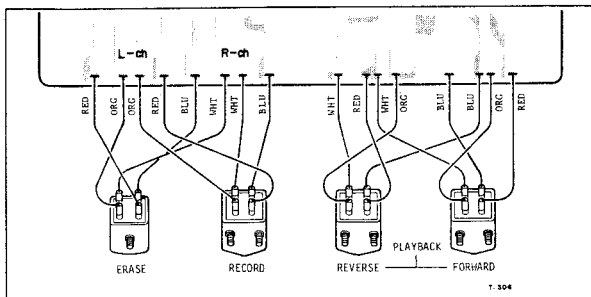

Fig. 6-2 Head Wiring —Rear View —
3. Remove 2 mounting nuts through access slot in head Base plate and dis-connect head wires. See Fig. 6-2.